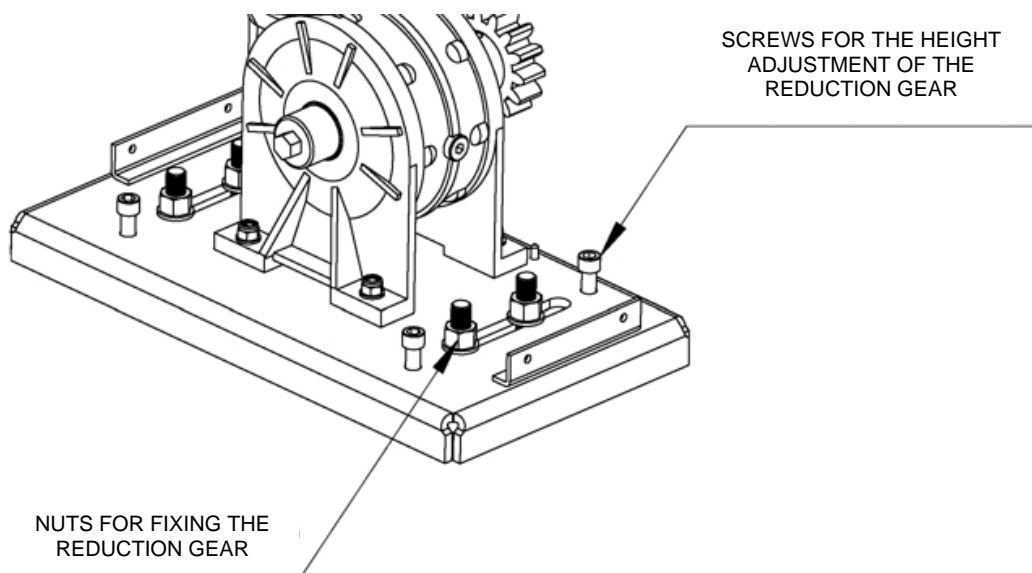

Fig. 6
- Insert the 4 washers + locknuts to fix the gear (fig. 6).
- If the allowed adjustment of the ratchet is not sufficient it is possible to compensate the height of the reduction gear working on the 4 more external screws (fig.6).